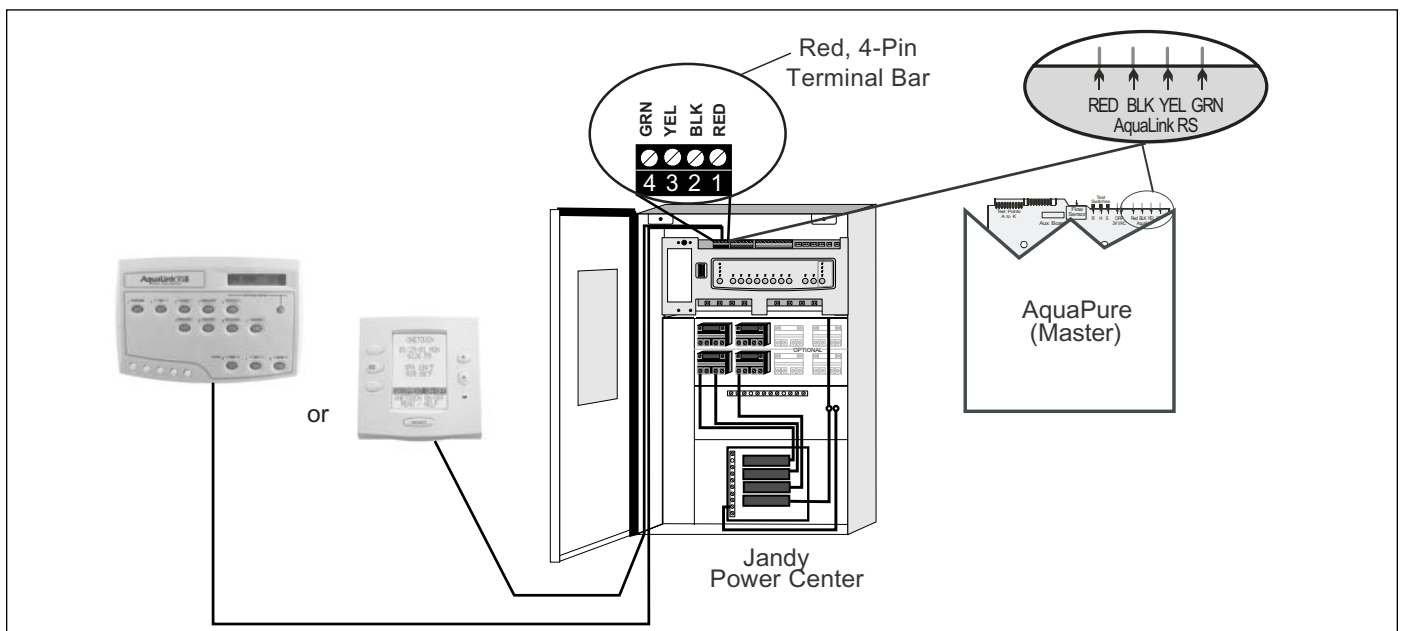

Figure 15. Wiring an AquaPure to an AquaLink RS Control System Network
The Jandy AquaLink RS and AquaPure use a four (4) wire connection to communicate and can be wired up to 500 feet apart. Any outdoor rated four (4) conductor cable can be used. Locate the appropriate screw terminals on the circuit board according to Figure 15. Wire the master AquaPure from the red 4-pin terminal bar to the AquaLink RS red 4-pin terminal bar (see Figure 15).
IMPORTANT Attach the master AquaPure wires to the like-numbered screw terminals on both the AquaPure and AquaLink RS as shown in Figure 15.